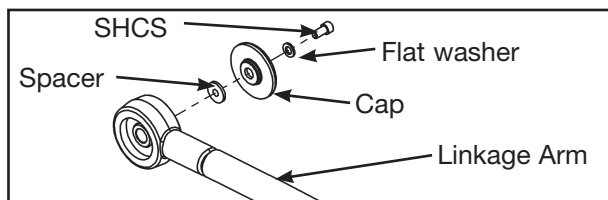

Figure 2
A. Using a 3/16" Allen wrench, remove the SHCS, flat washer, cap and spacer securing the linkage arm. See Figure 2.